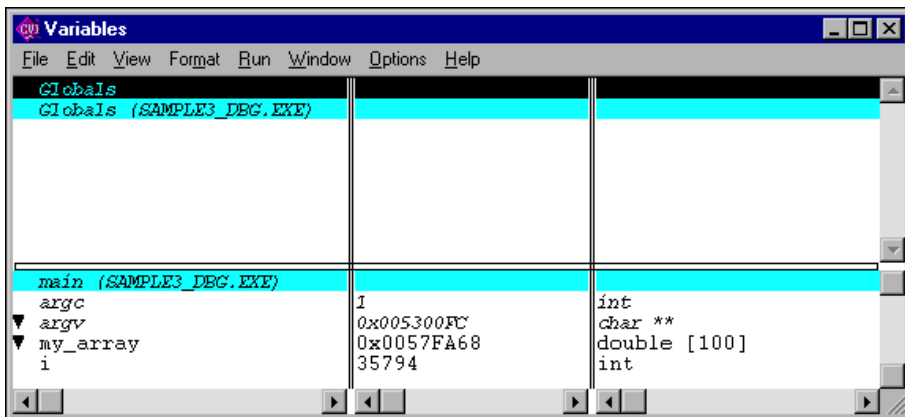

Figure 4-2. Variables Window during Execution of `main`
3. Select **Window»Variables**. The Variables window appears as shown in Figure 4-2.